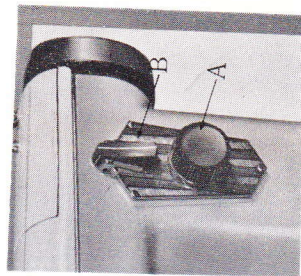

Fig. 10
The length of the stitch is regulated by the dial (A). Shown in Fig. 10 near "0" is the shortest stitch and "4" is the longest, but the dial may be set at any spot between the markings for a variety of lengths. Turn the dial to the right to lengthen and to the left to shorten the stitch.